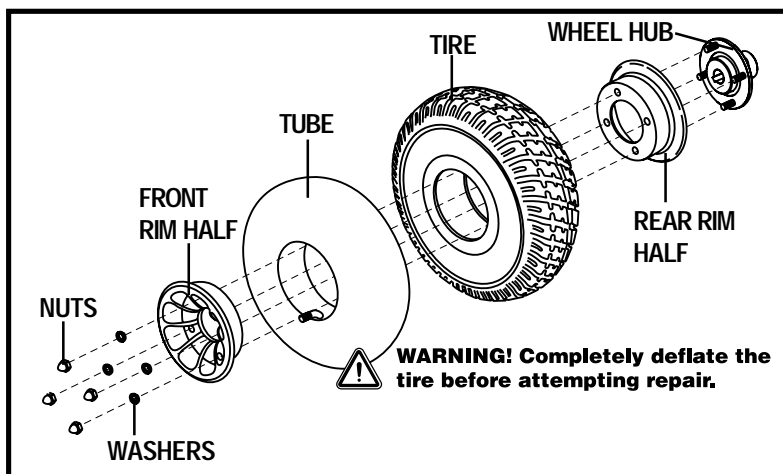

Figure 41. Drive Wheel Disassembled
6. Remove the nuts and washers from the wheel hub and separate the front and rear rim. See figure 41.